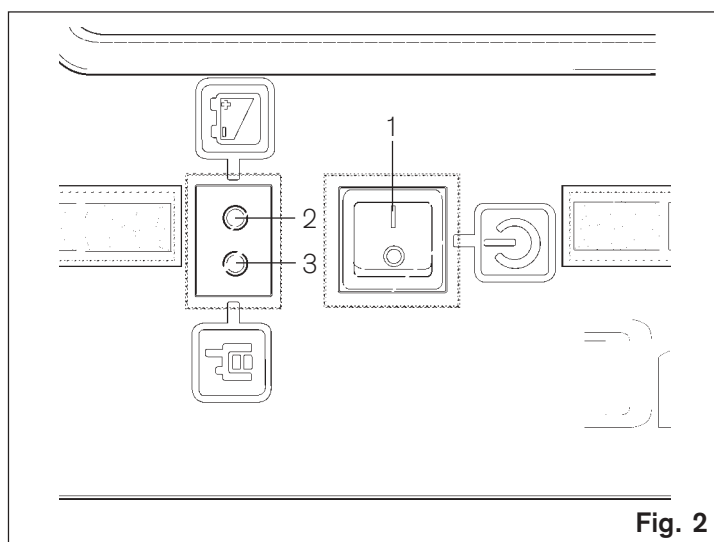

Fig. 2
Refer to Figure 2.
- ◆ Press the toggle switch (1) Fig. 2 to the 'On' position - the 'Red' LED. (2) should begin 'flashing' confirming a satisfactory charge condition of the battery. Switch 'Off'.
Note: With the toggle switch (1) Fig. 2 in the 'Off' position no power is used from the battery.
◆ Proceed to the selected location for the positioning of the repeater. When in position, press the toggle switch (1) Fig. 2 to the 'On' position and wait for the 'Green' LED (3) to begin flashing as this will confirm a successful radio link with the ECB. See Important Note. The flashing 'Red' LED confirms a satisfactory charge condition of the battery.
- ◆ Repeater No. 1 – prepare and position for operational use as described in the previous section, i.e. Operation - Single Repeater. The 'Green' LED (3) Fig. 2 flashing.
- ◆ Retrieve the repeater(s) from the selected location(s) and switch 'Off' by pressing the toggle switch (1) Fig. 2 to the 'Off' position. The 'Red' and the 'Green' LED will extinguish.